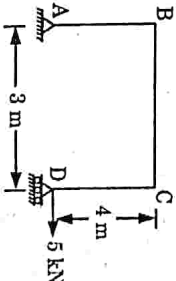

Fig. 4.
3. a. Determine the horizontal displacement of the roller end D of the portal frame shown in Fig. 4. EI is 8000 kN.m2 throughout.